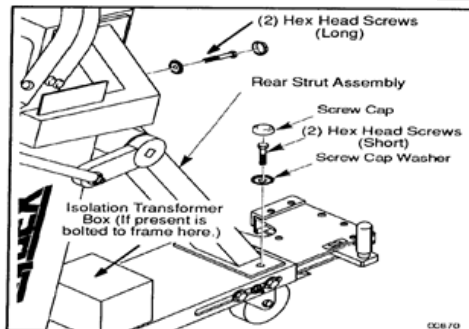

Figure 2-2 Rear Strut Assembly
2. Locate the four screw caps, two at the top and two at the bottom, on the rear strut. See Figure 2-2.